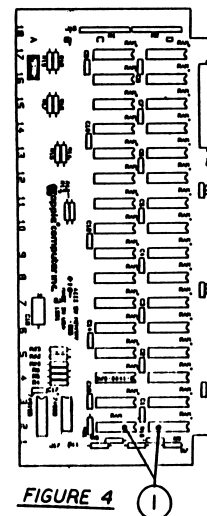

FIGURE 4
- 6.5 Memory Board (Figure 4)
APPLE /// and APPLE /// PLUS - MEMORY BOARD (Figure 4)